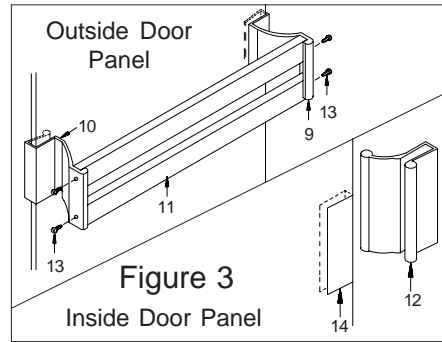

Figure 3
11. Set handle vinyl (14) in place over edges of outside glass panel (17) with bottom of vinyl in line with bottom of bumper (4). Tap towel bar brackets (9 & 10) in place (See Figure 3). Bracket with pull (10) should be to jamb side of slider opposite shower head. Assemble towel bars (11) to brackets using #6 x 3/8" SMS (13).
12. Set handle (12) in place over edge of inside glass panel (16) with bottom of vinyl in line with bottom of bumper on edge facing the wall jamb. Tap inside door pull (12) in place.